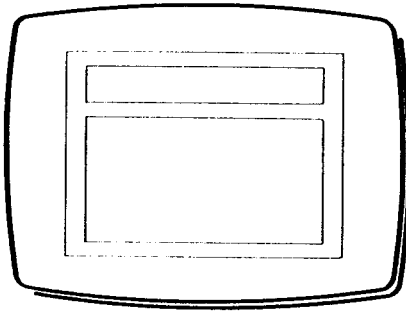

Fig 3
- 7 Now try erasing part of the drawing and then add new detail, (Fig 3).